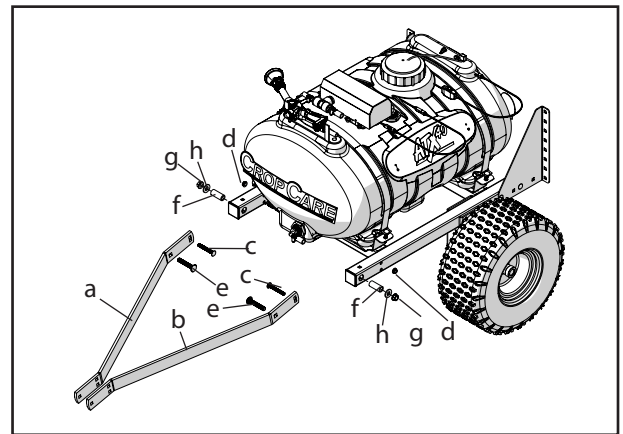

Figure 4: Installing trailer arms
5. Install the trailer hitch arms (a, b) using one 3/8" x 3" carriage bolt (c) and 3/8" flange nut (d) on the rear mounting hole, and one 1/2" x 3" carriage bolt (e), bolt bushing (f), 1/2" flat washer (h) and 1/2" flange nut (g) on the front mounting hole as shown (Figure 4).